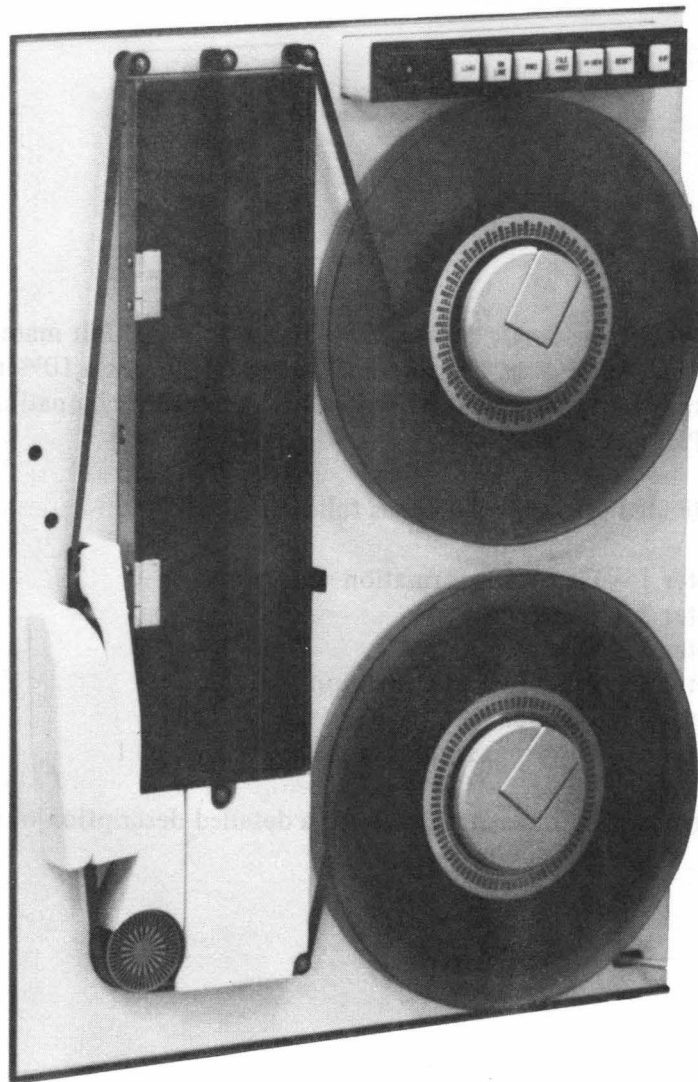

Figure 1-1. Model 2750 Magnetic Tape Unit
The Bright Model 2750 is a highly reliable, dual vacuum column, digital magnetic tape drive. See figure 1-1. The Model 2750 reads and writes data in ANSI and IBM compatible formats using either NRZI or phase encoded (PE) methods. Data is recorded on either 7-track or 9-track tapes at various tape speeds in the range of 25 to 75 inches per second (ips). Dual speed tape units are also available in this range. Magnetic tape recorded on the Model 2750 can be read on any other ANSI or IBM compatible tape unit. Also, the Model 2750 can read 7-track or 9-track tapes recorded on any other ANSI or IBM compatible tape unit. The tape unit uses maximum 10½-inch diameter tape reels.